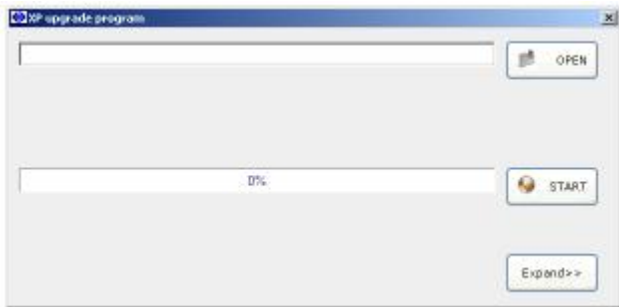
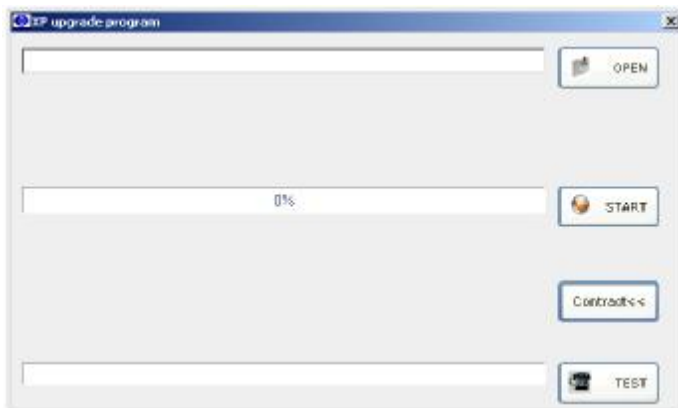

figure 1
figure 2
- 2) Click “start / programs / XP Cycler upgrade” or “XpUpgrade.exe” under the folder of upgrading software installation, the screen will show you the upgrading procedure interface (refer to Figure 1). Press “ Expand” to enter the expansion interface (refer to figure2). Press “Test” to test whether the RS232 connection is connected normally. If it is normal, the computer will display “communication is normal”. Press “Compress” to resume the original interface.
Tube	Under this mode (entering the thermostatical state after reaching goal temperature and decreasing about 3°C), reagent's temperature can be close to goal temperature very fast (see Fig. 2).